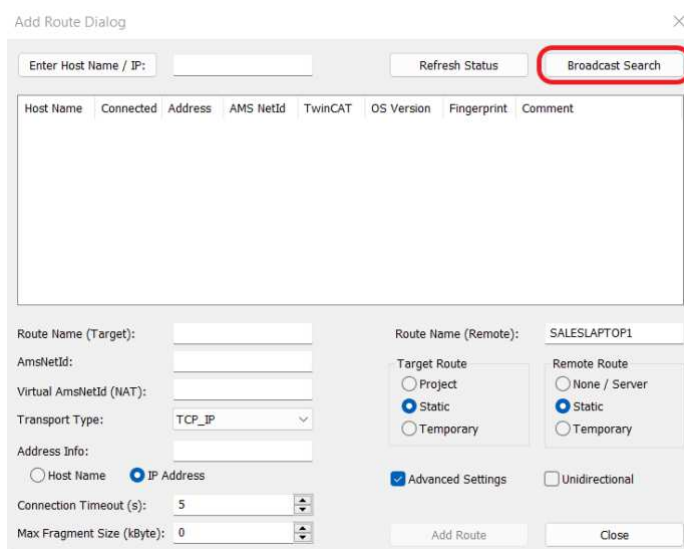

Figure 28: Static Routes – ‘Add Route Dialog’ window, advanced settings
4. Once ‘Advanced Settings’ are enabled, click on ‘Broadcast Search’ in the top right of the window – highlighted in Figure 28 below – to have your computer scan your network for available HEAT VIEW controllers.